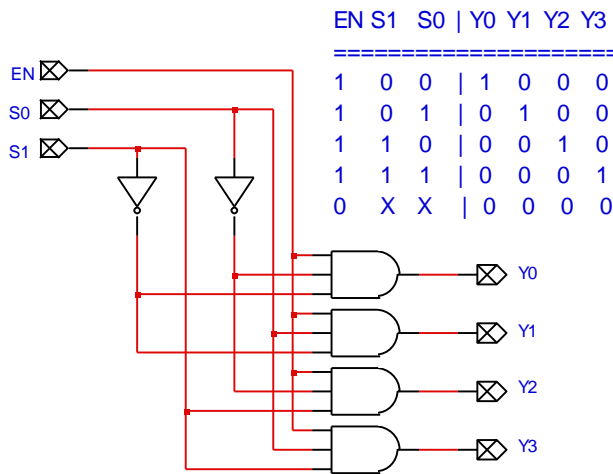

Figure 4. 2-to-4 decoder
A *decoder* is a switch used to “turn on” exactly one item out of a set. A decoder made from four 3-input AND-gates is shown in Figure 4. The input signals are an enable signal EN and two select lines, $S0$ and $S1$. Since the enable signal is directly wired to all four AND gates, when $EN=0$ the outputs are all inactive (0). On the other hand, when $EN=1$, the select lines are connected such that exactly one gate is chosen to be ON based on the value of $S0$ and $S1$. For example, look at the AND gate connected to $Y1$. Its top input (like all the other gates) is connected to EN . The middle input is connected directly to $S0$, and the bottom input is connected to $S1$ through an inverter. Thus, $Y1 = \overline{S1} \bullet S0 \bullet EN$. (The dots indicate logical AND function.). That is, $Y1$ is active when $(S1, S0) = (0, 1)$ (binary representation of the number 1) and EN is active. The remaining gates are connected in a similar fashion so that they are active when the appropriate number is put on the select lines $S0, S1$.
The decoder design shown in Figure 4 is called a 2-to-4 (2:4) decoder because it has two select lines and $2^2 = 4$ output lines. Decoders are usually referred to by size in this fashion (n to 2^n decoders).
Notice that the outputs of the 74LS138 are *active low*; that is, unlike the 2-4 decoder example in Figure 4, the 74LS138 is built with NAND gates so that its active output is a 0 and all inactive outputs are 1’s. (In all digital circuits, it is important to check whether specific outputs or inputs
are active high or active low. Active low I/O will normally be indicated with an open circle, such as pins 4,5,7 and 9-15 on the '138 in Figure 4.)
A demultiplexer performs the inverse operation of a multiplexer: it takes a single input line and connects it to exactly one output line, all other output lines being inactive. If you take a look at the 2-4 decoder in Figure 4, you'll see that it also serves as a 1-4 demultiplexer when you use the EN line as the input signal. For example, suppose $S1=1$ and $S0=0$ so that output line $Y2$ is selected and all other outputs are inactive. If $EN=1$, then output $Y2$ is also 1. Conversely, if $EN=0$, then so is $Y2$. In other words, a demultiplexer and a decoder are exactly the same thing.